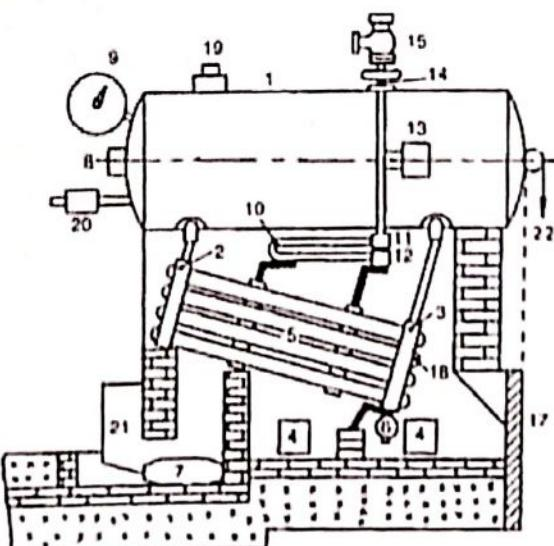

Fig. 3.2 Babcock and Wilcox Boiler
It is a straight tube, stationary type water tube boiler, as shown in Fig. 3.2. It consists of a stem and water drum (1). It is connected by a short tube with uptake header or riser (2) at the back end.